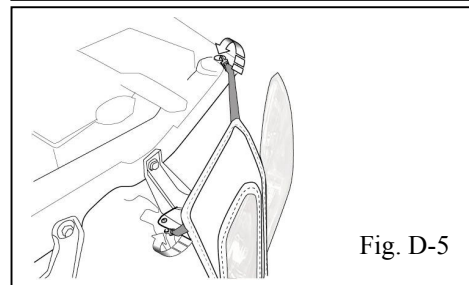

Fig. D-5
- ➔ 4. Attach one (1) elastic with “S” hook to the headlight bracket and one (1) elastic with “S” hook to the hole in the fender flange (Fig. D-5.) Repeat on other side of the vehicle.